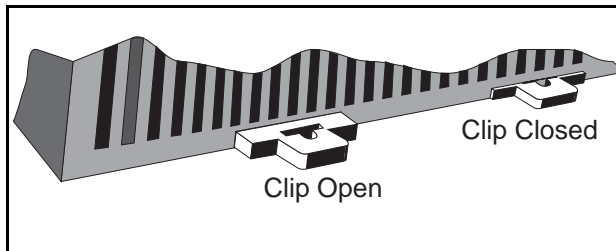

Figure 3.4 DIN Rail Clips
1. Open the DIN rail clip(s) on the bottom of the device by pulling them downward. See **Figure 3.4**, which shows the clip positions. (Base units have two clips; expansion modules have one.)